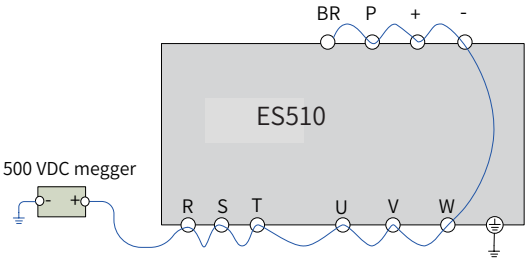

Figure 7-1 Insulation test on the main circuit
- ◆ Before measuring the insulation resistance with a megger (500 VDC megger recommended), disconnect the main circuit from the servo drive. Do not use the insulation resistance meter to test the insulation of the main circuit (see "Figure 7-1 Insulation test on the main circuit"). The high voltage test (> 500 V) need not be performed again because it has been done before delivery.